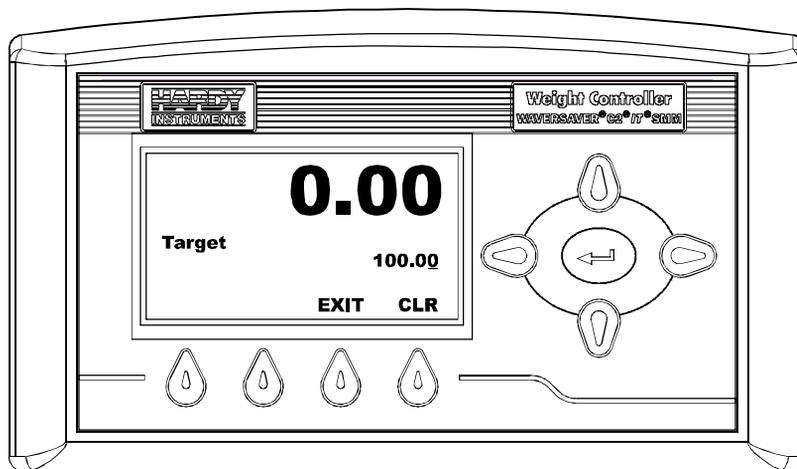

FIG. 368 SET POINT/TARGET MENU
- Step 12. Press the Enter button. The Target Menu appears. (See Fig. 368)